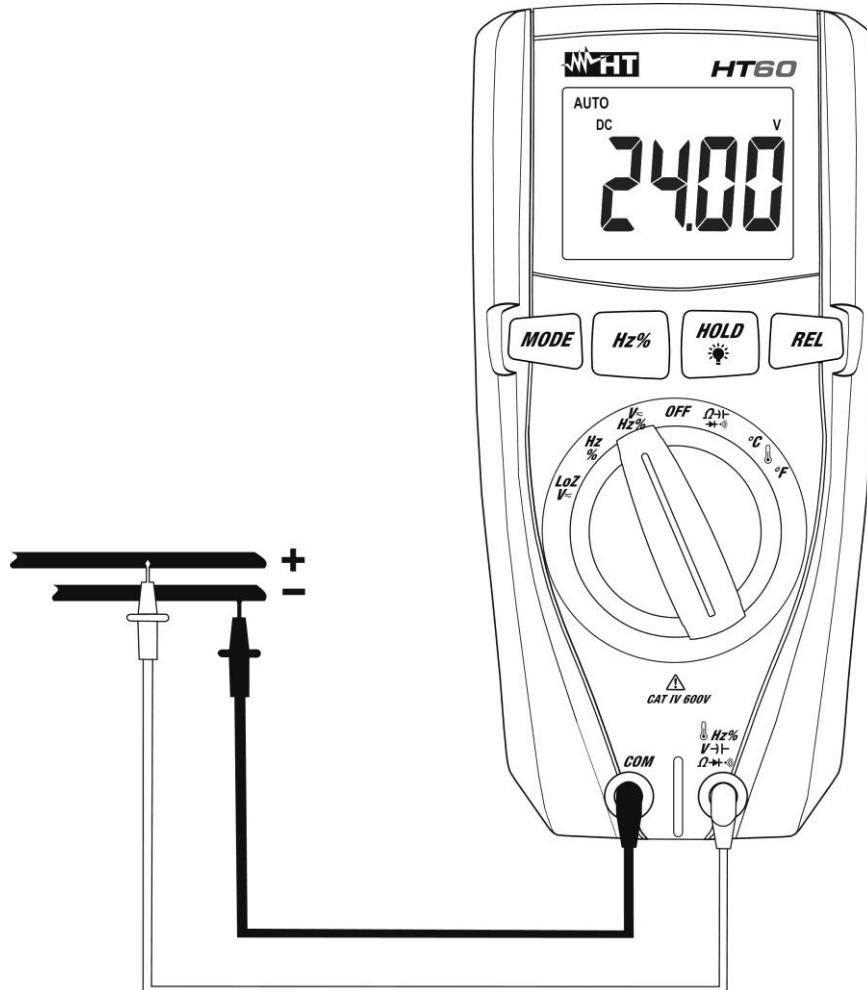
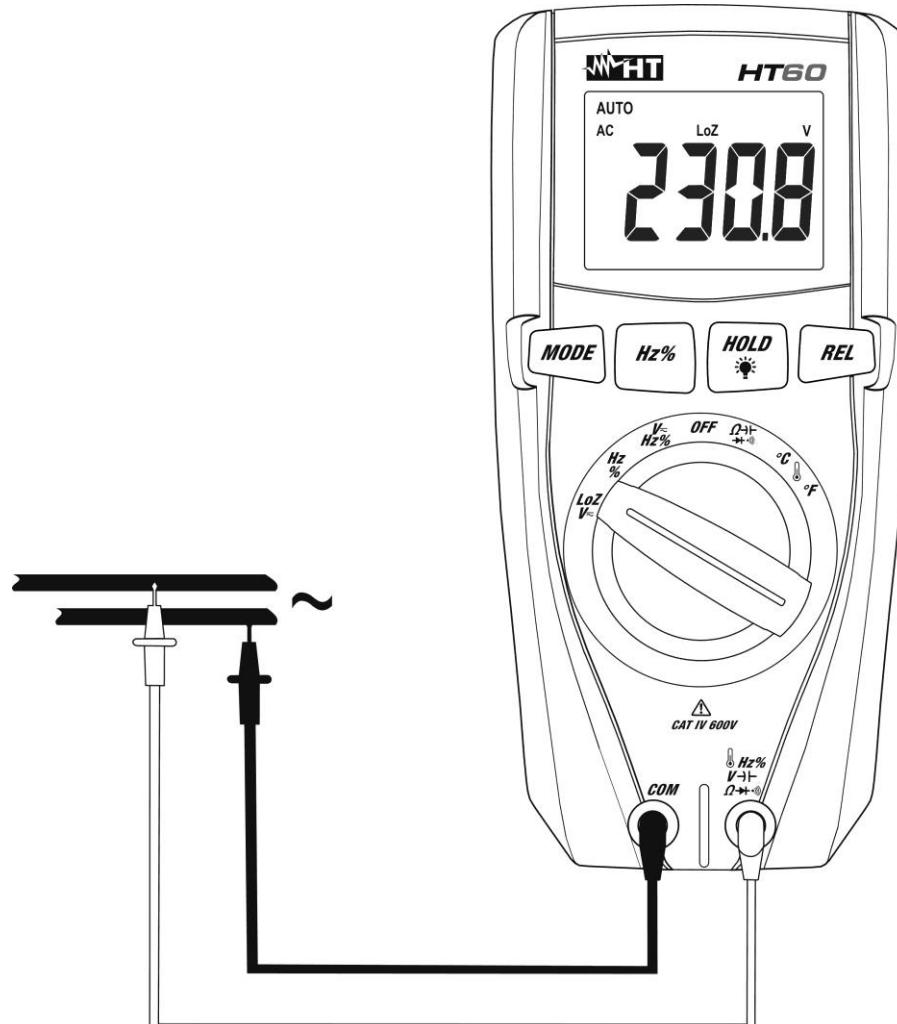

Fig. 2: Use of the instrument for DC voltage measurement
Fig. 4: Use of the instrument for AC/DC voltage measurement with low impedance (LoZ)
4. Position the red lead and the black lead respectively in the spots with positive and negative potential of the circuit to be measured (see Fig. 2). The display shows the value of voltage.
6. When symbol “-” appears on the instrument’s display, it means that voltage has the opposite direction with respect to the connection in Fig. 2.
4. Position the red lead and the black lead respectively in the desired spots of the circuit to be measured (see Fig. 4) or in the spots with positive and negative potential of the circuit to be measured (see Fig. 2). The display shows the value of voltage.
6. When symbol "-" appears on the instrument's display, it means that voltage has the opposite direction with respect to the connection in Fig. 2.